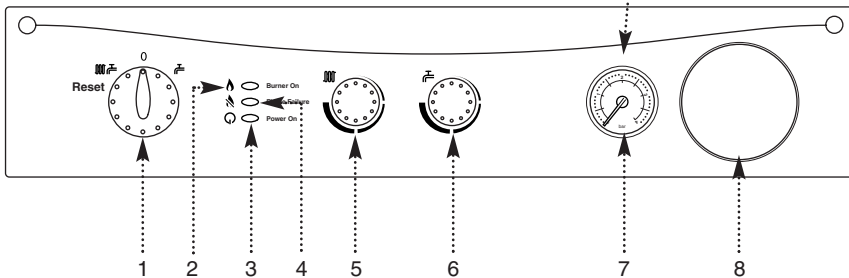

Fig. 4
3. In either position the green "power" neon (Q) will illuminate (Fig. 4).
7. The orange "burner" neon (flame icon) will illuminate when the boiler is operating and the main burner is on (Fig. 4).